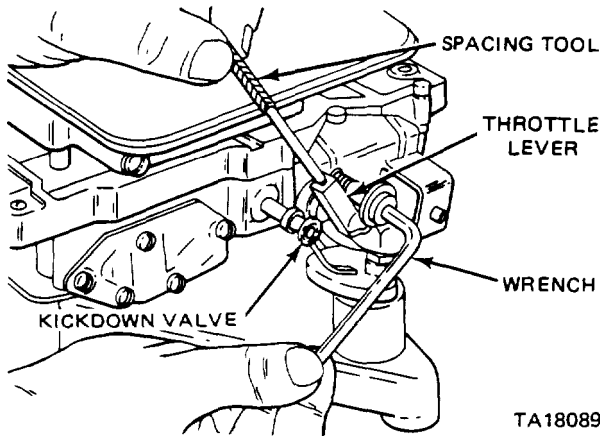

Figure 4-33. Throttle Pressure Adjustment,
(1) Insert the gage pin of tool C-3763 between the throttle lever cam and kickdown valve (figure 4-33),